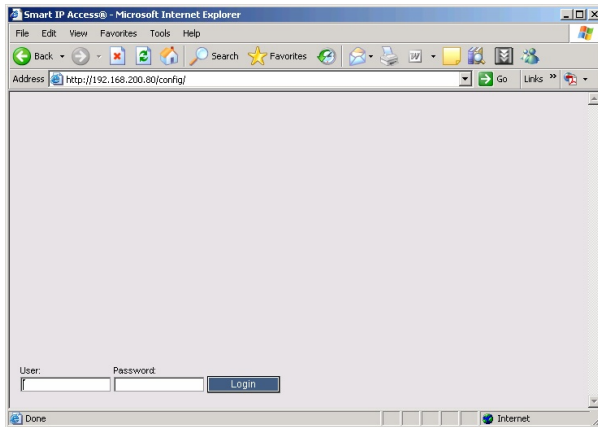

Figure 24 Login box
3. Type into the Address box: `http://IP address/config`. (Do not start the address with **https**). The Login box appears see Figure 24.